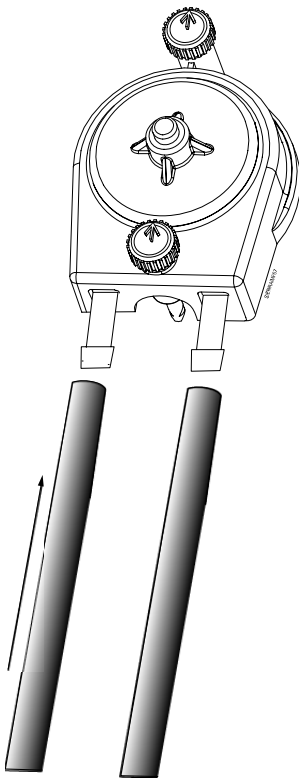

Figure 4. Installing Chemical Tubing
It is very important that the nut components be installed correctly, as shown in Figure 4.
- Connect the 1/4, 3/8 or 1/8-inch line, as appropriate, to the nut on the right (outlet side) of the squeeze tubes. Tighten the nut on the fitting. See Figure 4.